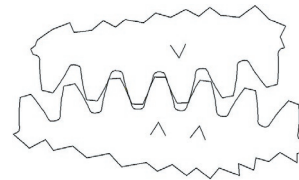

FIGURE 9
10. Apply a liberal coating of anti-seize or lubricating compound on the area of the shaft underneath the timing gear. Insert the keys into the shaft keyways. Install the timing gears, positioned with arrows meshed as shown in Figure 9. Rotate the driver shaft by hand, to be sure the timing gears are properly aligned. If not, check the arrows again.